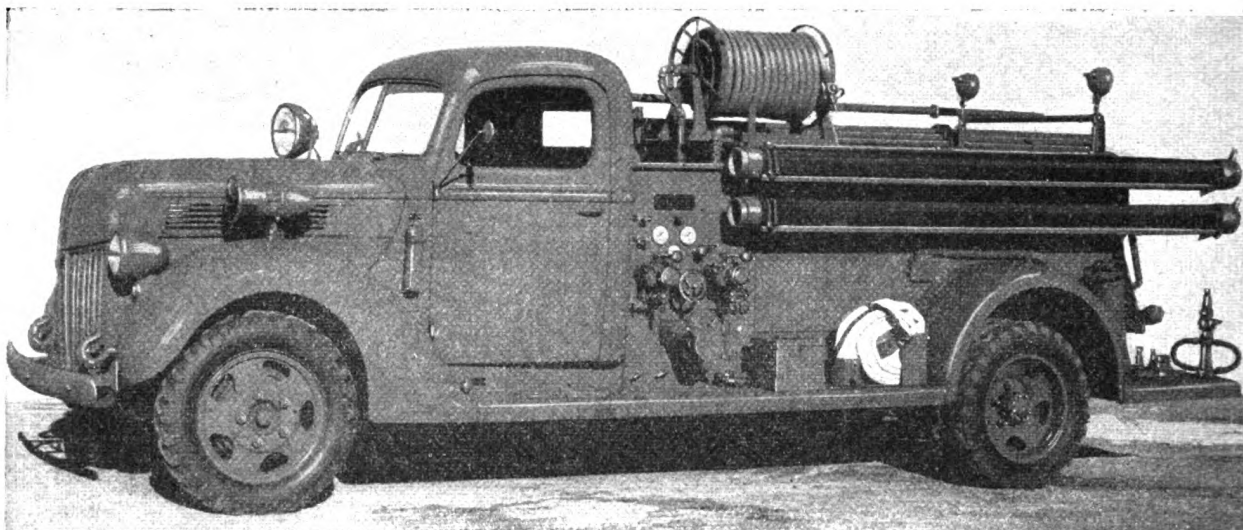

Figure 4. Class 500 fire truck, 4 x 2 chassis. (Stock No. 58-9120.915-500.)
d. **CLASS 500 FIRE TRUCK**. The class 500 fire truck (fig. 4) is the unit most commonly used at Army installations. It is similar to the class 750 truck but is smaller and has less pump capacity. The truck has